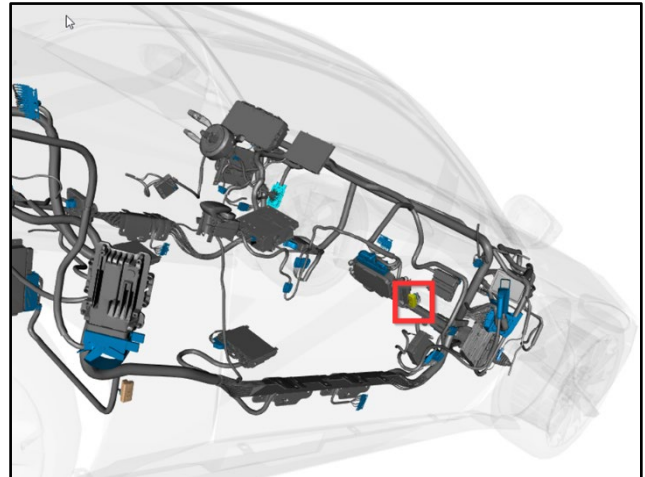

Figure 24
7. **Periphery CAN** – This header is in the instrument panel next to the DRVU (refer to Figure 24).